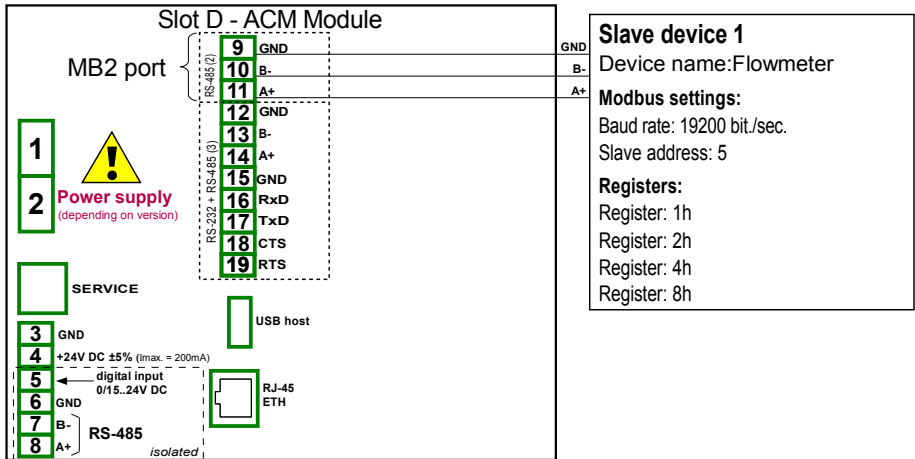

Fig. 7.154. Connection diagram for the Modbus MB2 port
First we need to configure the device according to the following recommendations, then connect the device in according with **Fig. 7.154**.
- using the arrows in the upper right corner choose **Port number: 1 (MB1** in accordance with **Fig. 7.154)**,